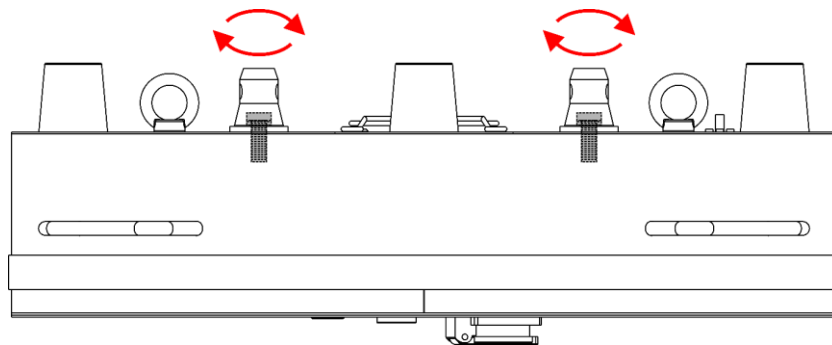

Fig. 10
- 03) Tighten the bolts with a hex key (8 mm) as shown in Fig. 10.